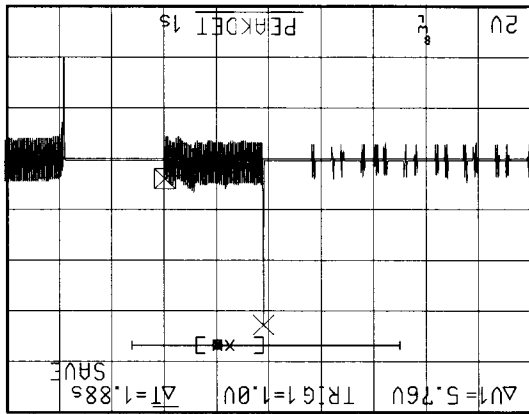

Figure 3-13: 4K Acquisition, 1K Window
- Step 1:** Go to the **STORE** mode and display the signal in the 4k mode (Figure 3-13).